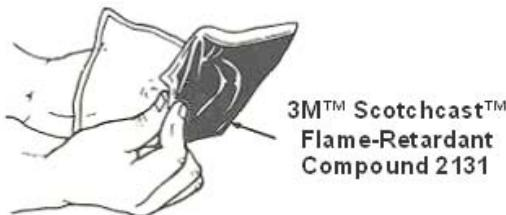

Figure 14
2. Firmly grasp each flat side of the closed mixing pouch near the center barrier; at the same time, pull sides of barrier apart and roll sides of thumbs through barrier. Break the barrier all the way across to the side seals. (Figure 14)